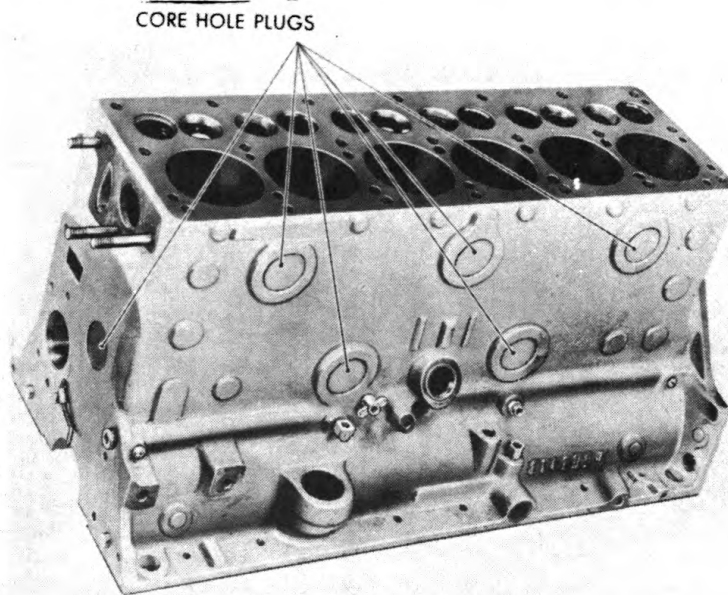

Figure 88—Cylinder Block
Inspect and Repair Cylinder Block Casting—(Figure 88.) Inspect the casting thoroughly including the bearing supports for cracks. If
98. INSPECT GASKET SURFACES OF CYLINDER BLOCK AND HEAD—(Figures 88 and 89.)
99. INSPECT AND REPLACE CORE HOLE PLUGS—(Figure 88.)